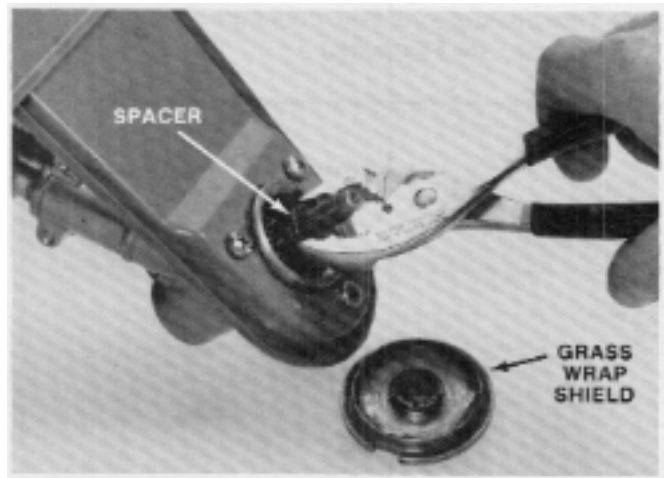

Figure 132
3. Remove the sleeve from the cutter head drive shaft by grasping with a pliers and pulling straight off. See Figure 132.